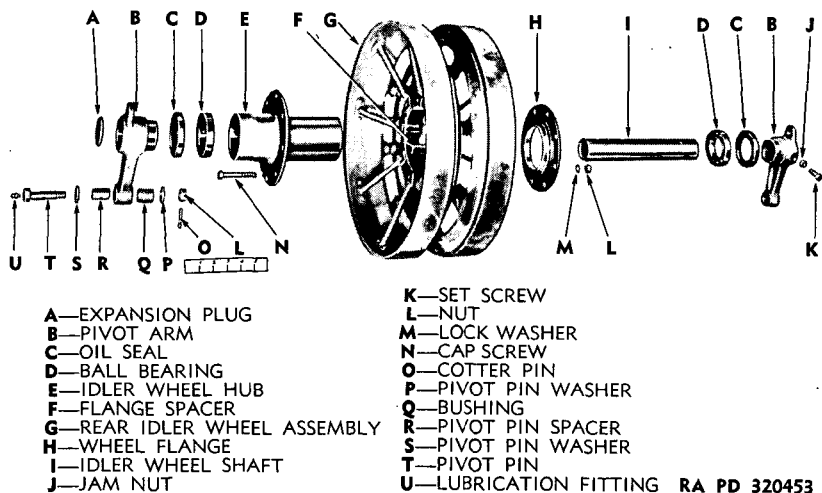

Figure 39 — Track Rear Idler Assembly Disassembled
b. **Assemble Track Idler Wheel.** Follow procedure outlined under paragraph 44 a and b. Refer to figure 39 for relation of parts.